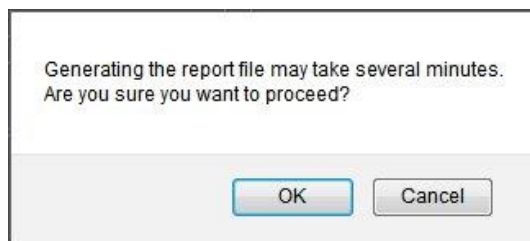

Figure 318: Generate Report
- Click the OK button for the pop up that appears asking if you would like to proceed (Figure 318).